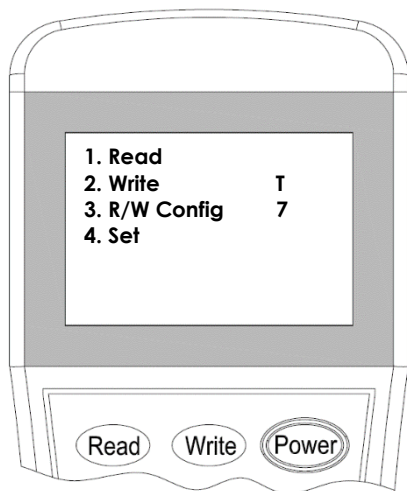

Figure 13
2. Switch-on the programmer, then press button "**3**" to enter to **Configuration mode** (Figure 13).